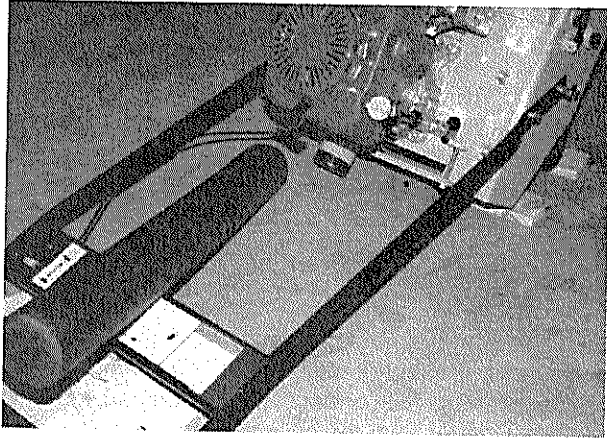

FIGURE 25
2) Tilt the Surface Grinder back until the operator handle comes in contact with the surface. The Surface Grinder may not be in a stable position in this configuration. To minimize the possibility of property damage and/or personal injury, properly secure an appropriate weight to the handle for added stability. Other means can also be utilized to support the frame and provide proper machine stability. Appropriate wheel chocks are also recommended, FIGURE 25.